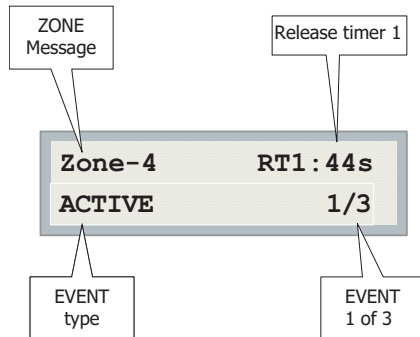
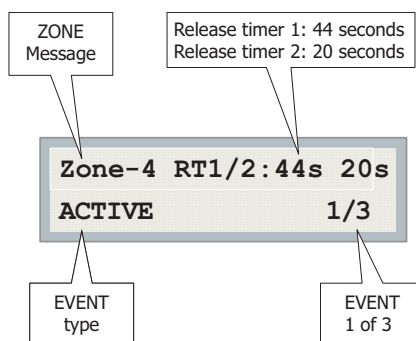

Figure 31 1 release timer active
Figure 32 2 release timers active
- Release Timer (RT) is started when the panel enters Hazard Alarm state after by detecting the 2nd alarm in cross-zoned hazard or 1st alarm in non cross-zoned hazard. The Release Timers are shown on the CFG-300 and RAM-300LCD display; see Figure 31 and Figure 32.